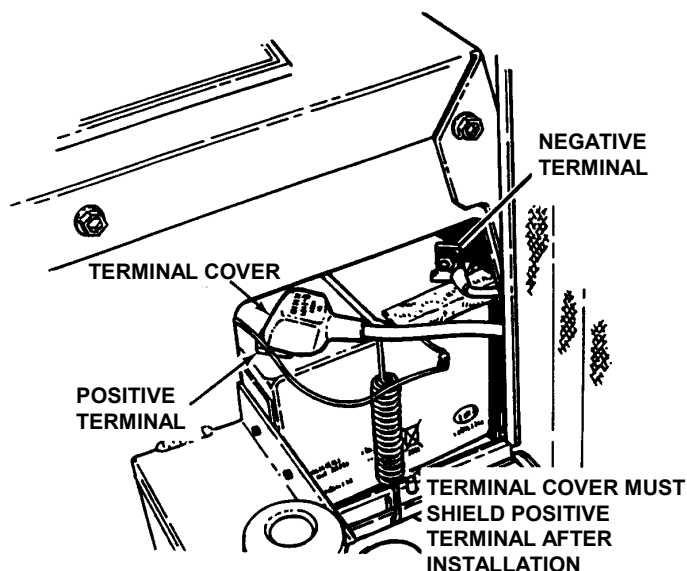

FIGURE 5.10
3. Observe and note cable positions on battery. See Figure 5.10.